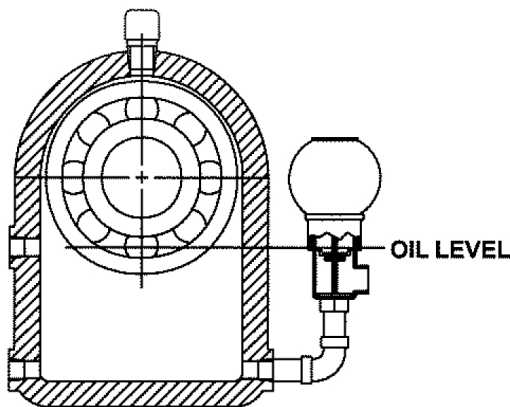

Fig. 7
- On those PACO Type LF Centrifugal End Suction pumps ordered with oil lubricated bearings, Fig. 7. A regular oil maintenance program must be enforced. Pumps with oil lubricated bearings are fitted with a transparent reservoir (constant level oiler) that maintains oil level about the centerline of the bearing. When necessary, the oil supply in the reservoir of the constant level oiler must be renewed.